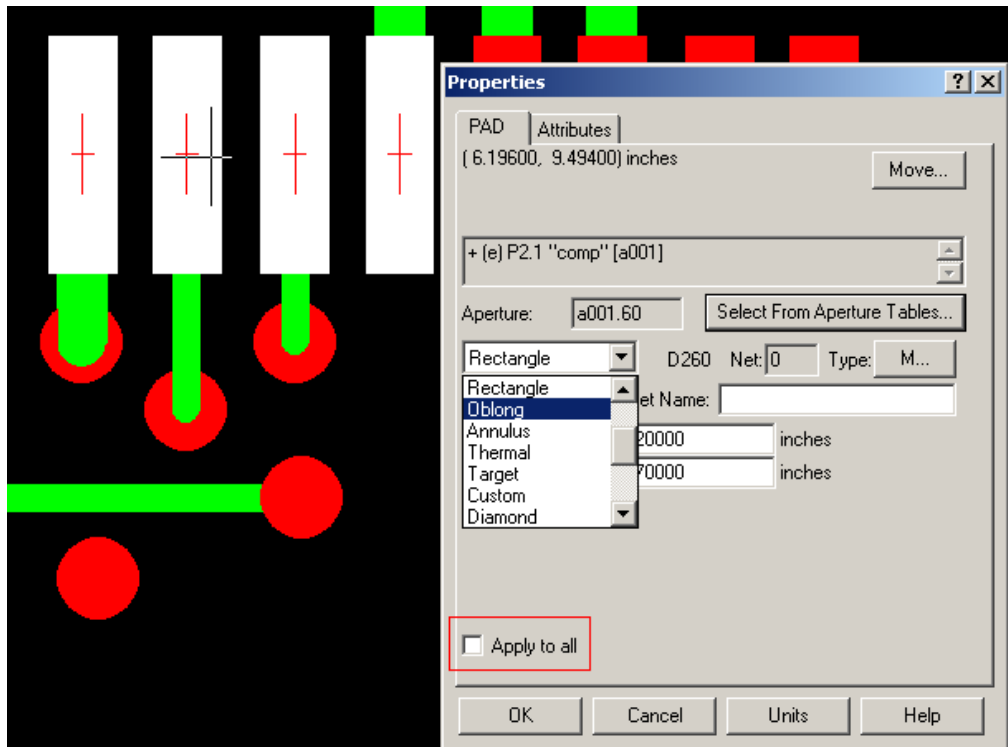

Figure 15: Properties Page
1. In Normal mode, select a pad or two. They will turn white. Right click while the crosshair is over one of the pads and select **Properties**. The Properties page appears (Figure 15).